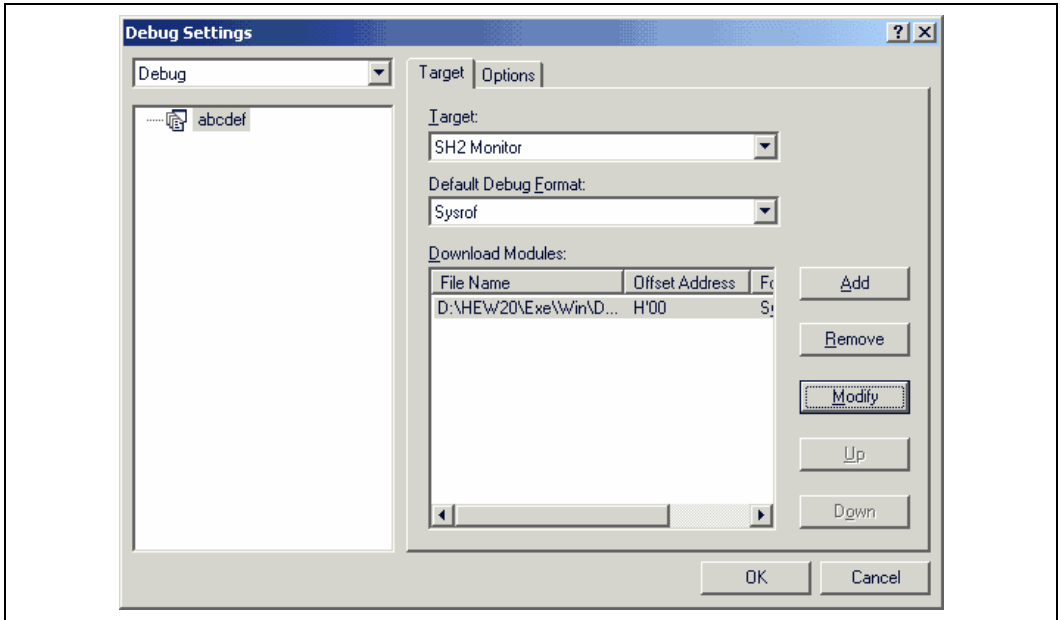

Figure 3.16 Debug Settings Dialog Box ([Target] Sheet)
It is also possible to manually choose the download modules after the project creation. This is achieved via the [Debug Settings] dialog box shown in figure 3.16. This dialog box allows you to control the debug settings throughout your workspace. The tree on the left of the dialog box contains all of the current projects. Selecting a project in this tree will then show you the settings for that project, and the session selection in the session drop-down list. Multiple sessions or all
1. Select [Options -> Debug Settings...]. The dialog box shown in figure 3.16 will be displayed.